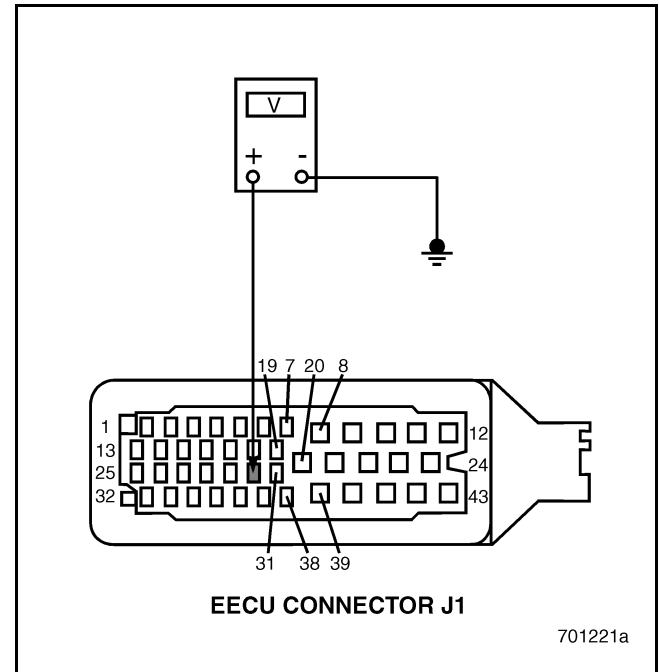

Figure 354
4. Measure the voltage between EECU connector J1 pin 30 and a good ground (see Figure 354).